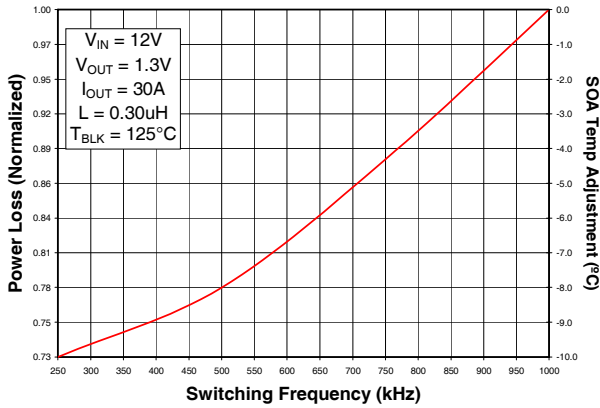

Fig. 5: Normalized Power Loss vs. Frequency
- (Fig. 5) Normalized power loss for frequency  $\approx 0.955$
- (Fig. 5) Normalized SOA Temperature for frequency  $\approx -1.8^\circ\text{C}$